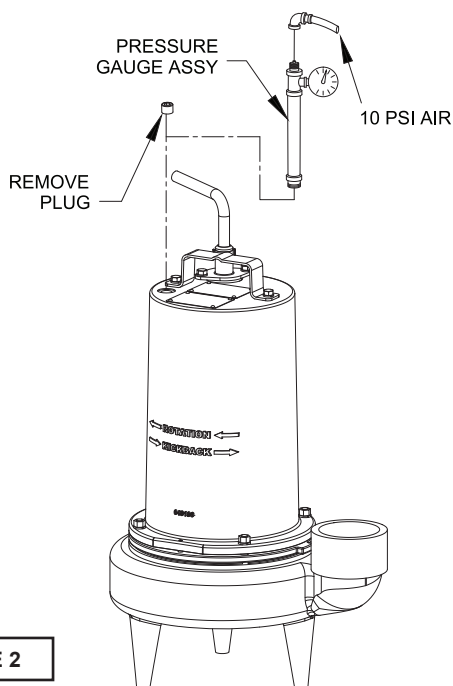

FIGURE 2
Motor Housing - Set unit upright and refill with new cooling oil as per Table 1 (see parts list for amount). Fill to just above motor as an air space must remain in the top of the motor housing (2) to compensate for oil expansion (see Figure 2 or 11). Apply pipe thread compound to threads of pipe plug (5) then assemble to motor housing (2).
Pumps that have had the oil drained from the Motor Housing - Apply pipe sealant to pressure gauge assembly and tighten into pipe plug hole (see Figure 2). Pressurize motor housing to 10 P.S.I. Use a soap solution around the sealed areas and inspect joints for "air bubbles". If, after five minutes, the pressure is still holding constant, and no "bubbles" are observed, slowly bleed the pressure and remove the gauge assembly. Replace the pipe plug using a sealant. If the pressure does not hold, then the leak must be located and repaired.
Pumps that have had the oil drained from the Motor Housing - The pressure test may be done with the oil at its normal level. Remove pipe plug (5) from motor housing (2). Apply pipe sealant to pressure gauge assembly and tighten into hole (see Figure 2). Pressurize motor housing to 10 P.S.I. and inspect joints for "air bubbles". For sealed areas below the oil level, leaks will seep oil. If, after five minutes, the pressure is still holding constant, and no "bubbles"/oil seepage is observed, slowly bleed the pressure and remove the gauge assembly. If the pressure does not hold, then the leak must be located and repaired.